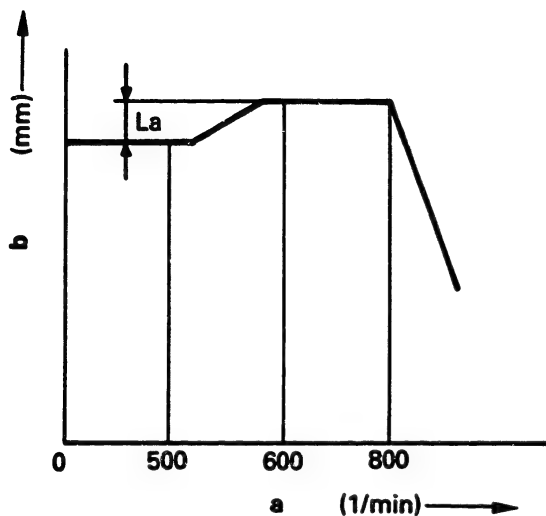

Fig. 71
3. Using a wrench make adjustments by means of adjustment screw (181/3), while raising and lowering pump speed within the range of 500 to 600 rpm; specified value "La". (Figs. 71 and 72).